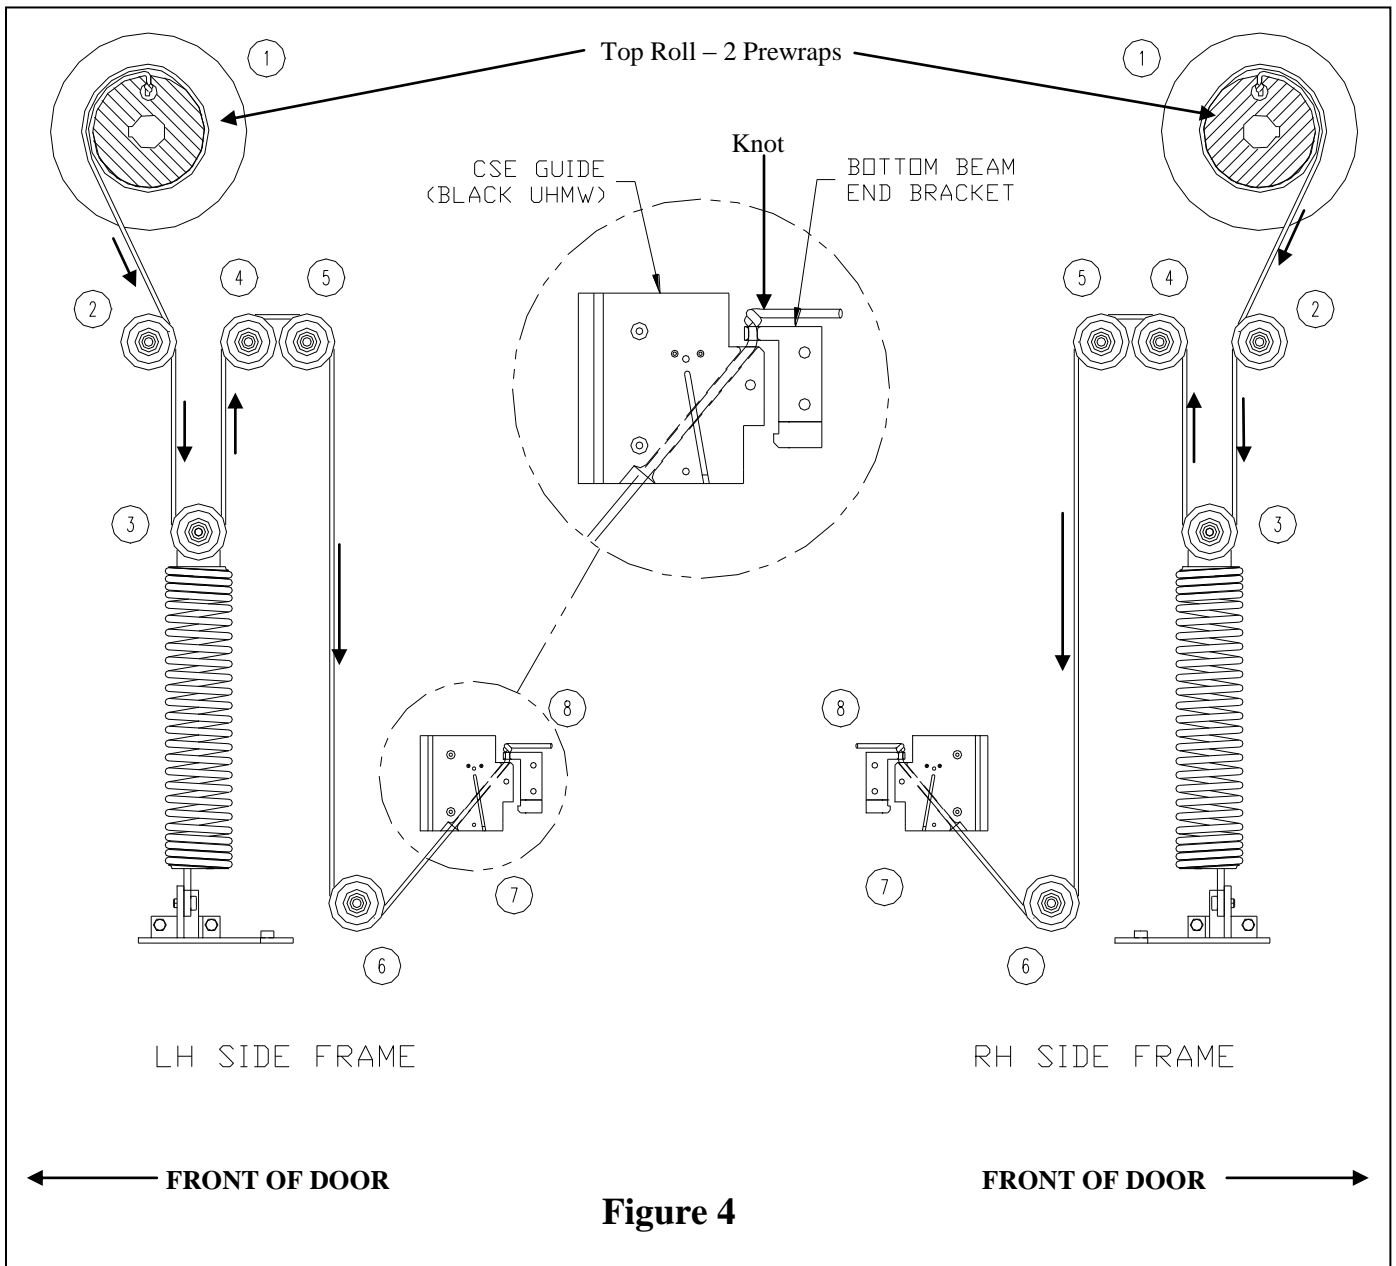

Figure 4
Step 10 Attach and place 2 pre-wraps of tensioning rope on both rope pulleys and allow rope to drape down over the front of the side columns. (**Figure 4**)
Step 12 Run the tensioning rope through the appropriate pulleys in the counterbalance system corresponding to the drawing placed inside the side columns. Ensure the rope is run through the sliding part of the CSE block. **(Figure 4)** Run the rope through the hole in the aluminum bracket on bottom profile.
Step 14 Using a come-a-long or similar pulling device, stretch the springs to the horizontal arrows marked on the diagrams located on the side column covers. Remove slack from the tensioning rope and secure rope in place by tying a knot in it. **(Figure 4)**